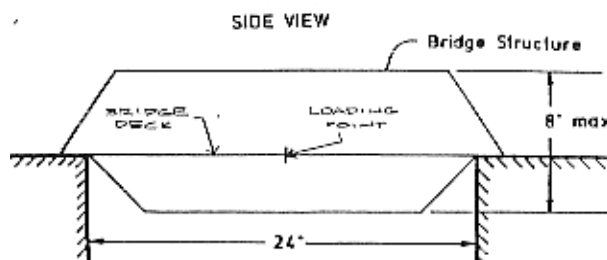

Figure 7
- Bridges may have a total height of no more than 8 inches (Figure 7).